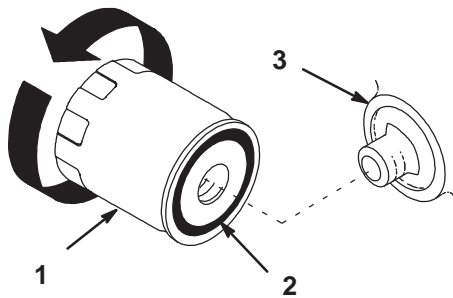

Figure 31
2. Remove the old filter and wipe the filter adapter (Fig. 31) gasket surface.
4. Apply a thin coat of new oil to the rubber gasket on the replacement filter (Fig. 31).
5. Install the replacement oil filter to the filter adapter. Turn the oil filter clockwise until the rubber gasket contacts the filter adapter; then tighten the filter an additional 1/2 turn (Fig. 31).